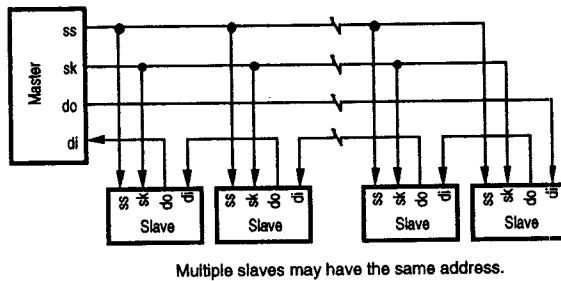

Figure 14. SPI System Configuration (Z86E06 Only)
**SPI Operation (Z86E06 only).** The SPI is used in one of two modes: either as system slave, or as system master. Several of the possible system configurations are shown in Figure 14. In the slave mode, data transfer starts when the slave select (SS) pin goes active. Data is transferred into the slave's SPI Shift Register through the DI pin, which has the same address as the RxBUF Register. After a byte of data has been received by the SPI Shift Register, a Receive Character Available (RCA/IRQ3) flag and interrupt is generated. The next byte of data will be received at this time. The RxBUF Register must be cleared, or a Receive Character Overrun (RxCharOverrun) flag will be set in the SCON Register, and the data in the RxBUF Register will be overwritten. When the communication between the master and slave is complete, the SS goes inactive.